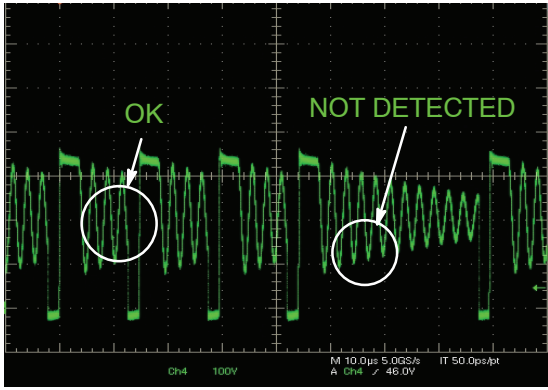
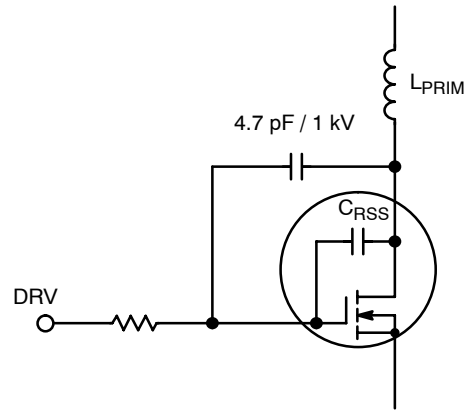

Figure 11. Instability at Lower Load
Figure 12. External Gate-to-Drain Capacitor
- The detector is not sensitive enough ( $C_{RSS}$  is too small): the first valley(s) is (are) detected, but not the following ones, leading to an instability at light load (see Figure 11). In this case it is necessary to increase the gate to drain capacitance by adding an external capacitor (see Figure 12). A 4.7 pF or 10 pF capacitor is enough to increase the sensitivity of the detector and cancel the instability. This added capacitor must be a high voltage model as it must sustain the drain voltage.